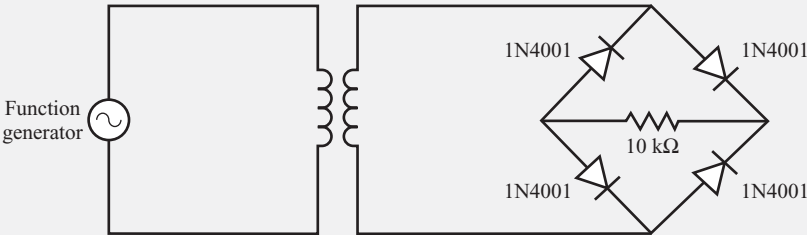

FIGURE 11.22
5. Set up Circuit # 2; the bridge rectifier circuit shown in Figure 11.22. Use the same transformer you used in Circuit #1. You do not connect the center tap on the secondary coil in this circuit.